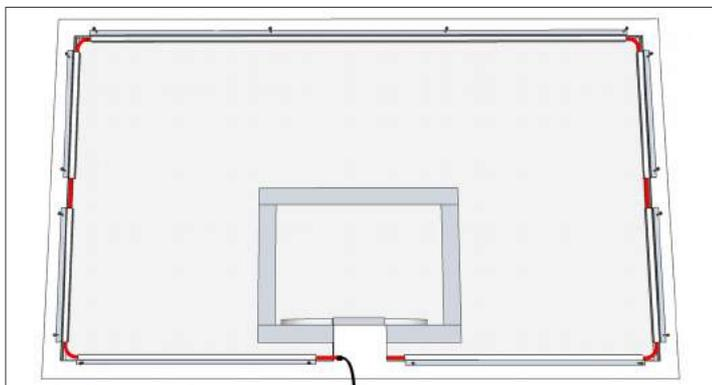
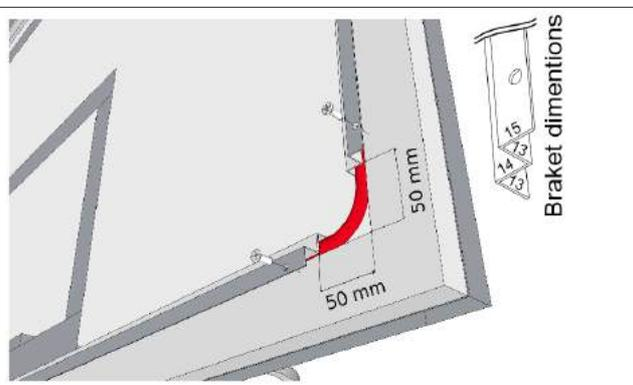

Fig. 3.1: Position of the Perimeter Light (Rear view of the backboard).
Fig. 3.2: Position of the Perimeter Light (Rear view of the backboard).
The Perimeter Light should be placed along the edges of the back of the transparent backboard, as in Fig. 3.1. The Perimeter Light should be fastened and secured with the proper fastening brackets and screws provided, as in Fig. 3.1 and Fig. 3.2. During installation it is important to check that:
- There is about 5 cm of space left between the brackets at the corners of the backboard, to ensure that the Perimeter Lights curve properly (Fig. 3.2).